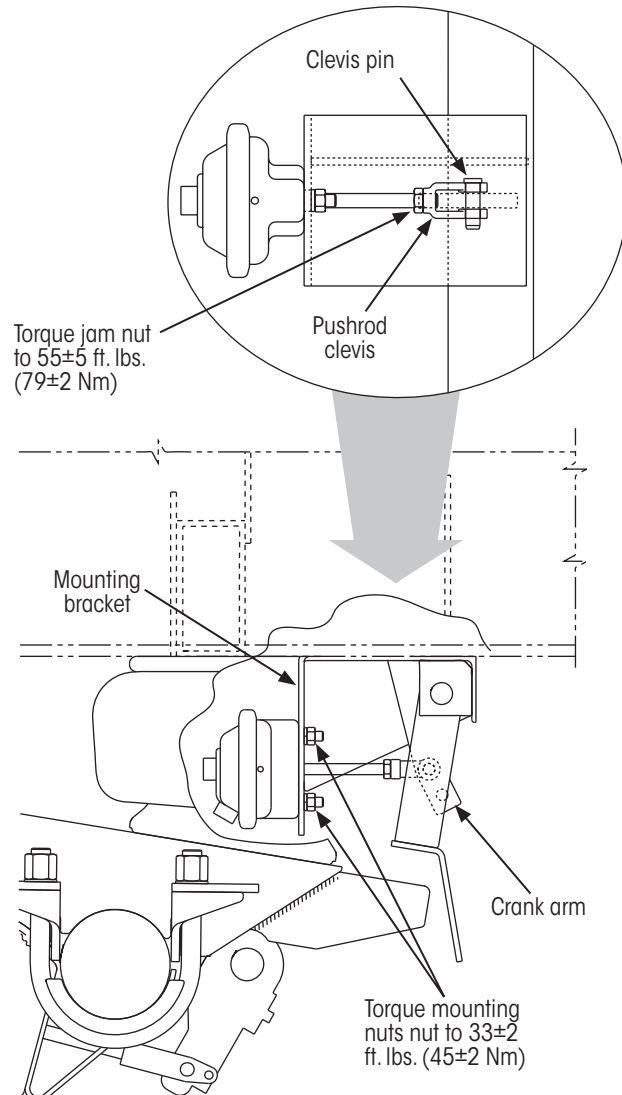

Figure 52: HT1 90T/HT230T brake chamber installation details
2. **Slide** the brake chamber pushrod through the mounting bracket (Figure 52).
6. **Tighten** the brake chamber mounting nuts (Figure 52) to 33±2 ft. lbs. (45±2 Nm) of torque.